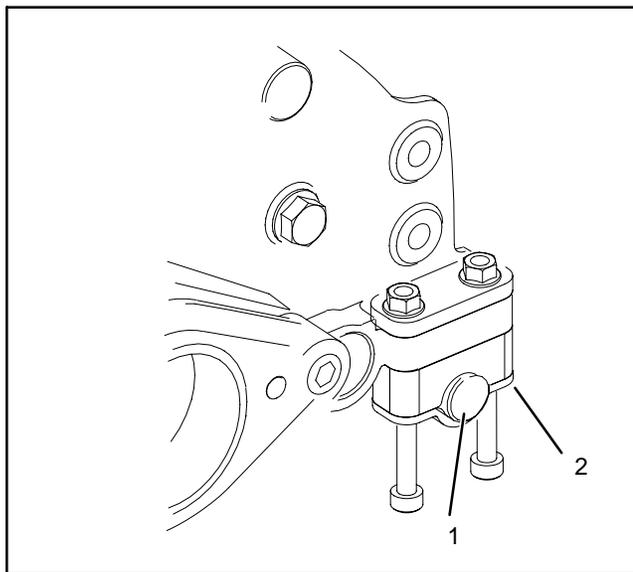

Figure 23
1. Slide the left hand side plate (6) onto the reel shaft. Make sure the reel shaft threads do not damage the grease seals in the side plate.
2. Apply a film of No. 2 general purpose grease to the reel shaft threads and install the left side reel bearing locknut (8).
3. Slide the right hand side plate (10) onto the reel shaft. Make sure the reel shaft threads do not damage the grease seals in the side plate.
4. Apply a film of No. 2 general purpose grease to the reel shaft threads and install the right side reel bearing locknut (8).
5. Mount the frame assembly (17) to the side plates with the four shoulder bolts (7). Torque the shoulder bolts to **17 to 20 ft-lbs. (23 to 27 Nm)**.
6. Secure the grass shield (22) to the side plates with two capscrews (24), washers (23), and lock nuts (25).
7. Torque the reel bearing locknuts (8) to **50 to 60 ft-lbs. (68 to 81 Nm)**.
9. Install the rear roller as follows (Fig. 23):